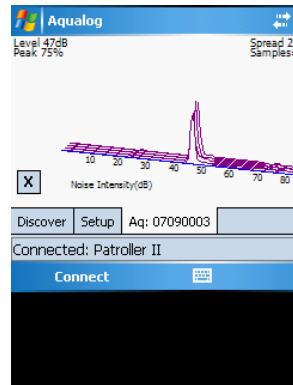

Figure 34: Aqualog Downloaded Graph tab
6. Click  button when it is enabled to display a new tab which will show a 3D graphical representation of the downloaded data. See *Figure 34*.